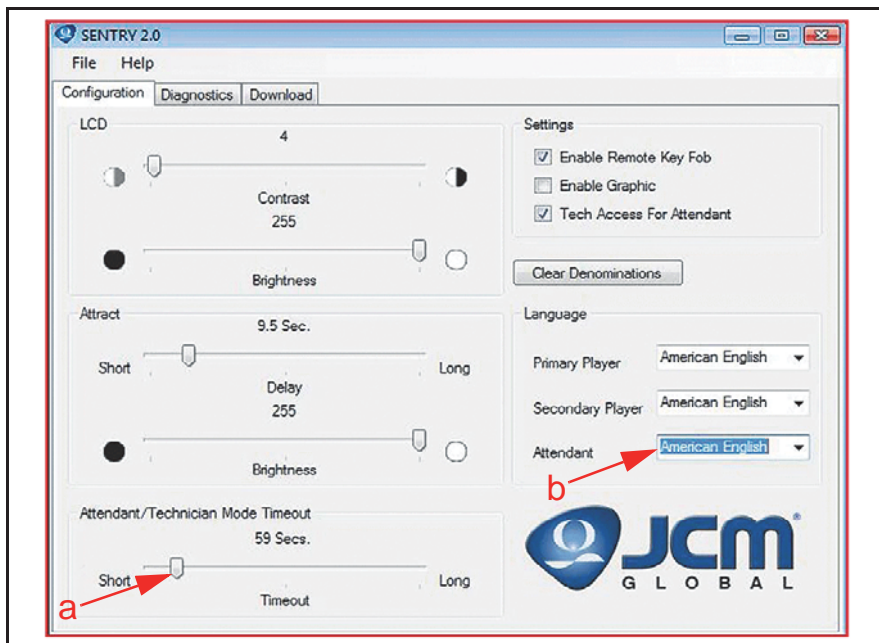

Figure 7 SENTRY 2.0 Attendant/Technician Mode Configuration and LCD Brightness/Contrast Setting Screen
NOTE: If the Attendant/Technician Mode Timeout slider is set (Figure 7 a), the Sentry 2.0 Bezel automatically returns to Player Mode after the Attendant/Technician Mode Timeout Period expires.
After accessing the Technician Mode Menu, this setting determines how much time will elapse before the system automatically returns to Player Mode (Figure 7 a). To access this feature from the Configuration Utility Configuration tab:
2. In the Language field, click the “Attendant” drop-down menu, then click on the desired language option, such as American English (Figure 7 b).